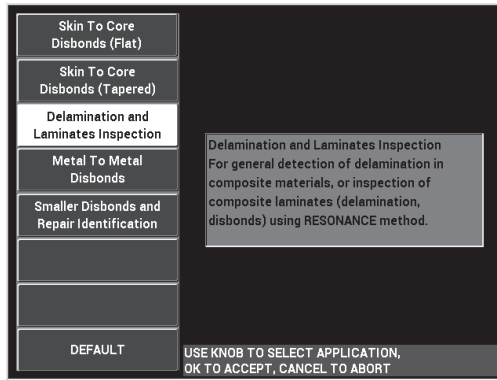

Figure 6-46 The Delamination and Laminates Inspection application
- Select the **Delamination and Laminates Inspection** application, and then press ✓ to accept (see Figure 6-46 on page 163).